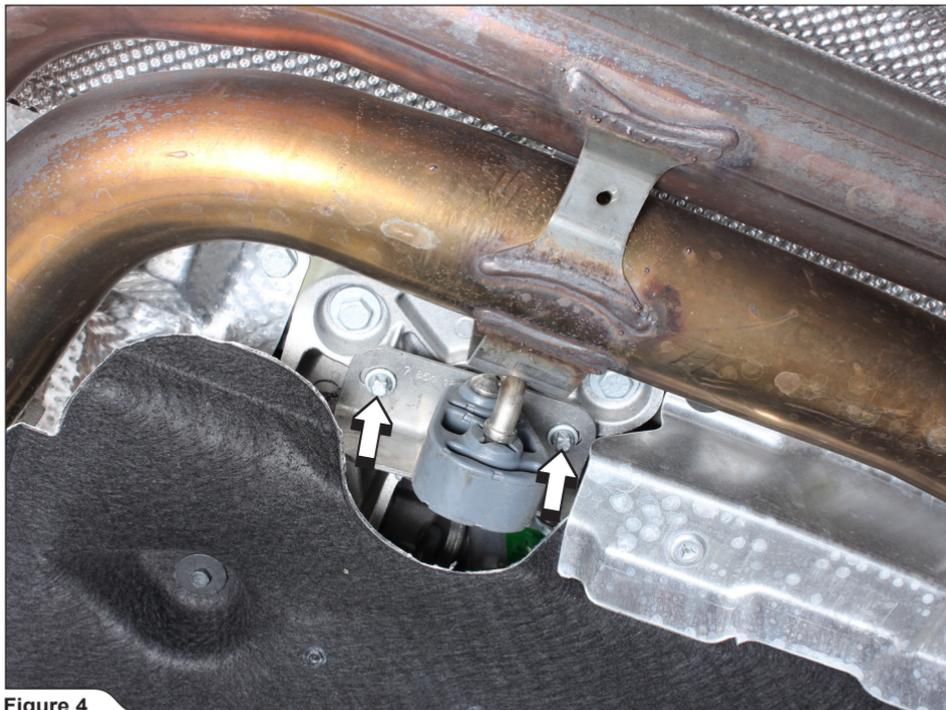

Figure 4
4. Unscrew the link pipes bracket bolts (**Figure 4**).